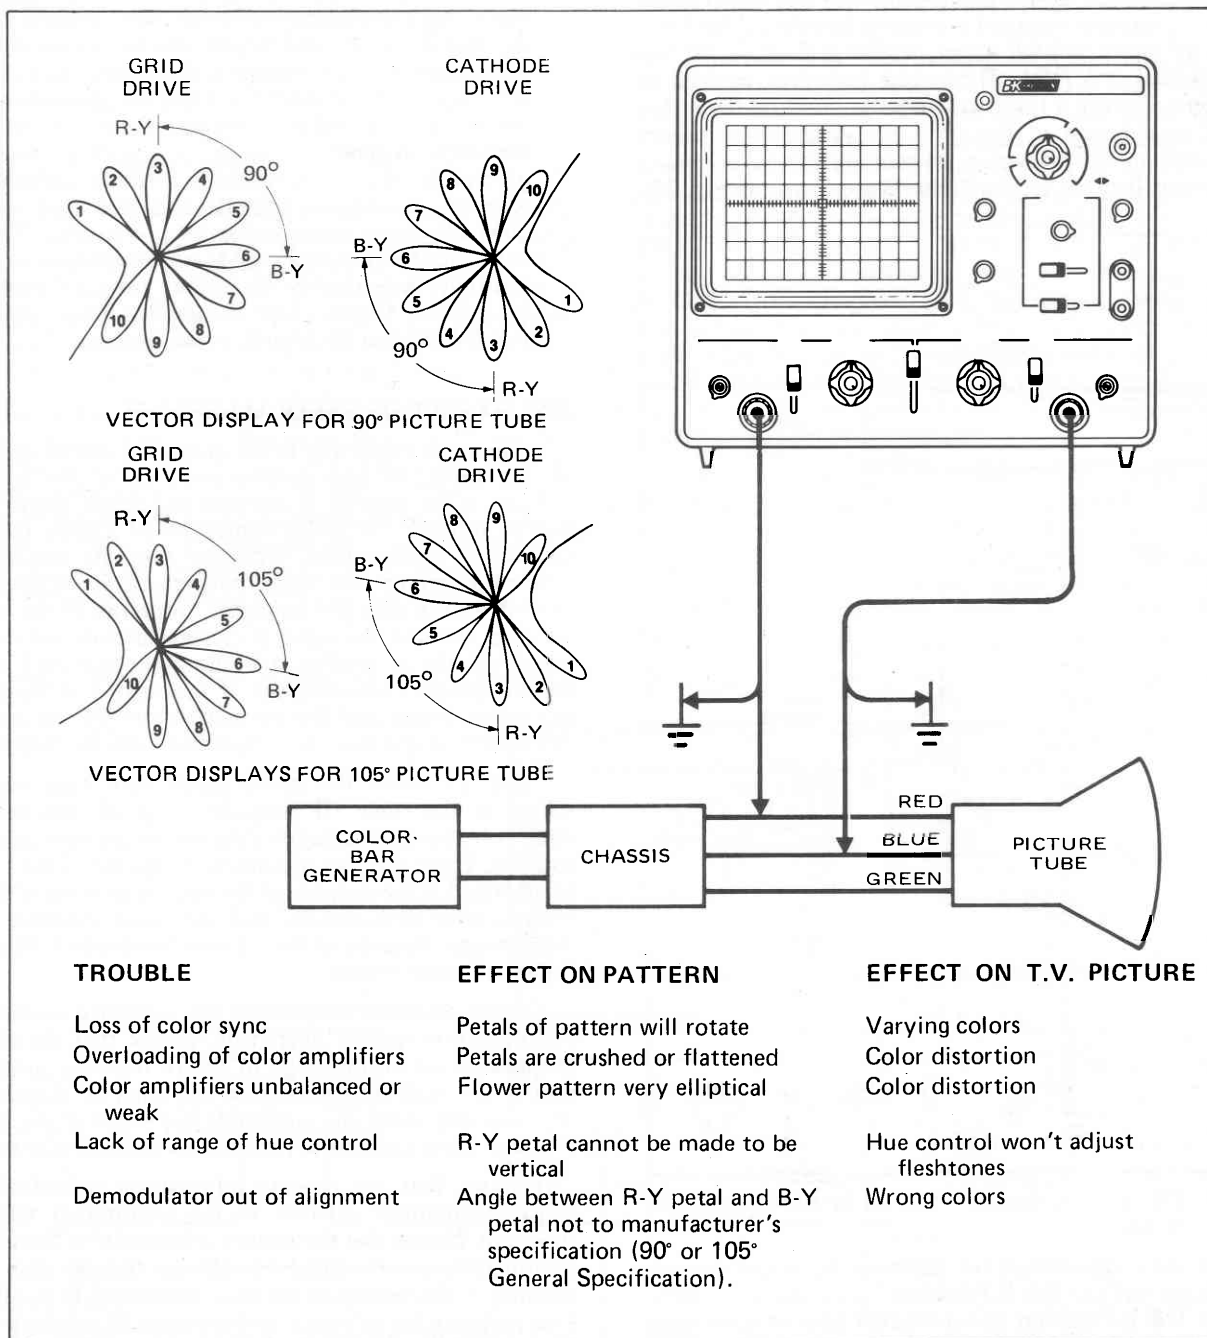

Fig. 26. Vectorscope operation and patterns.
7. For vector presentation, merely move the horizontal probe to the driven element of the blue gun. The color vector pattern is the same type as given by the television set manufacturer. Fig. 26 shows typical displays obtained for sets using 105° systems and 90° systems with either grid drive or cathode drive.